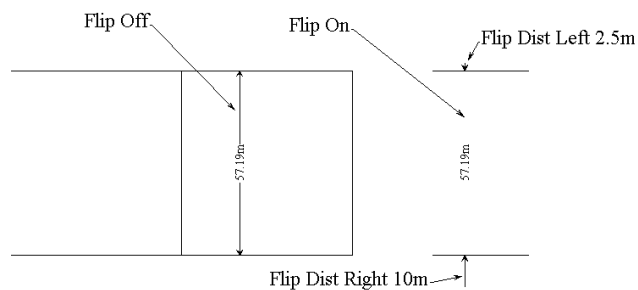

Figure 2-54 - Dimension Arrow Flipping
- Flip Distance:** Left and Right - Enter the length of each arrow required if “Flip” is used. (See Figure 2-54).